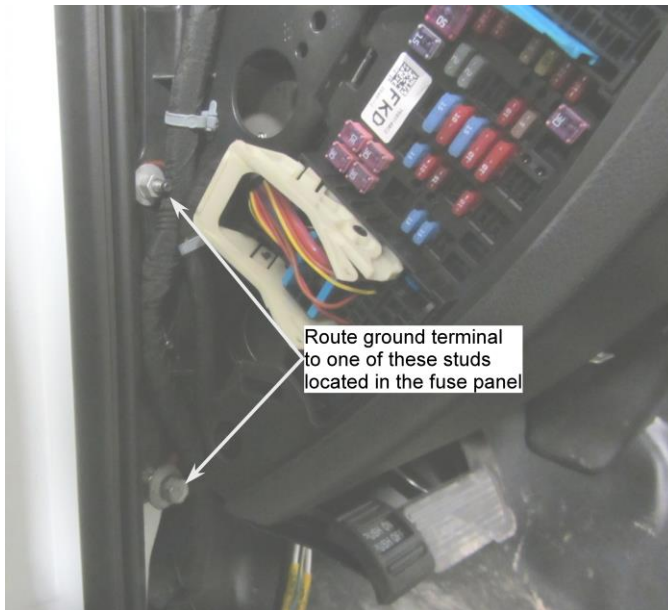

Figure 34: Ground Routed to Stud Near Fuse Block
18. Route the Black J32 (Ground) wire with ring terminal, to a ground stud located near the fuse block. See Figure 34 below.